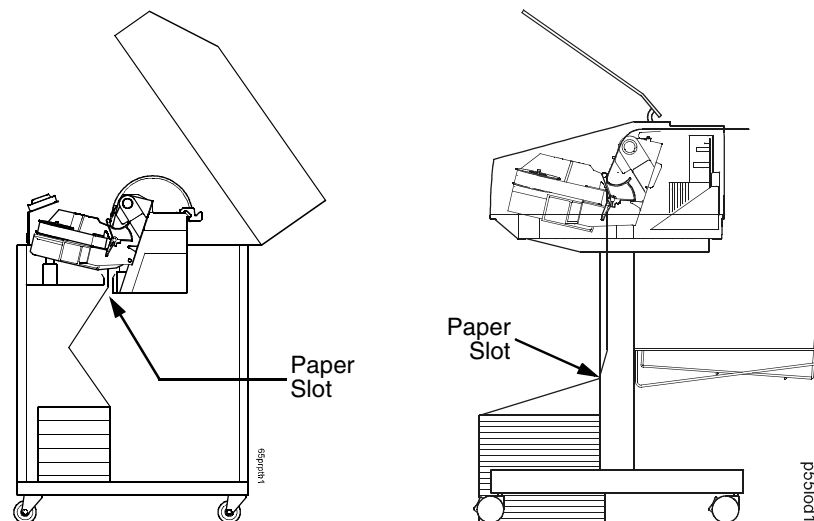

Figure 39. Feeding the Paper
5. Feed the paper up through the paper slot. On pedestal models, be sure the paper feeds between the two wire guides. Hold the paper in place with one hand (to prevent it from slipping down through the paper slot) while pulling it through from above with your other hand. See Figure 39.